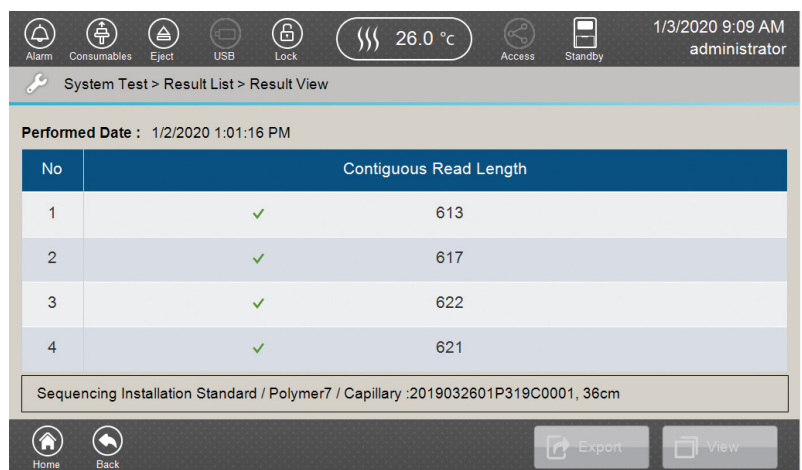

Figure 229. Sequencing System Test 'Result View' screen.
3. Select **View** in the footer to view a list of samples in that run in the 'Result View' screen (Figure 229). **View** and **Export** do not become active until a sample is selected.
4. Select **View** in the footer to view the list of four samples in that system test in the 'Result View' screen (Figure 229).